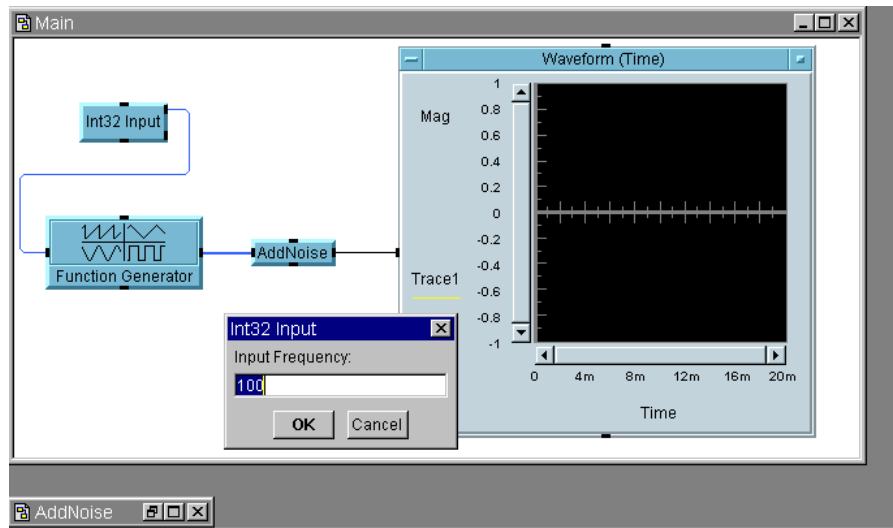

Figure 2-8. Runtime Pop-Up Input Box
5. Run the program. The input box for Int32 Input appears, with the instruction Enter Frequency:. Try running the program with different frequencies in the input box. See Figure 2-8, shown at run-time with the pop-up input box. Simply click and drag the pop-up box to control where it appears.